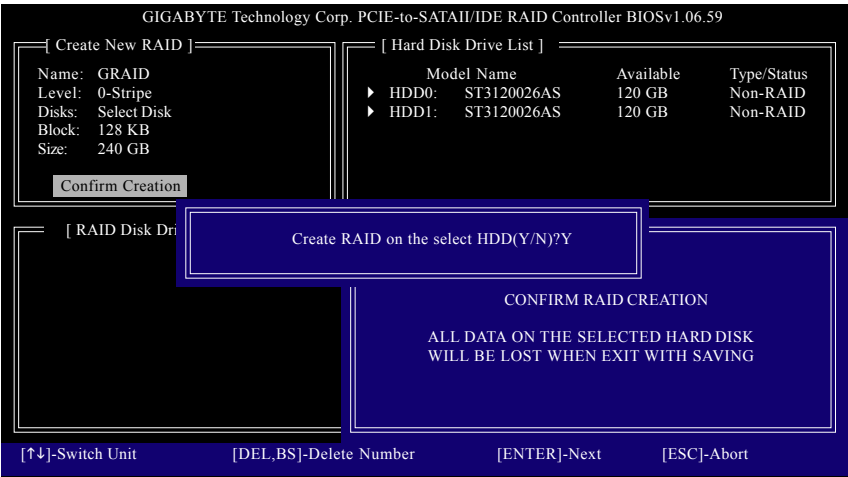

Figure 8
6. Confirm Creation: After all of the items above are configured, the selection bar automatically jumps to the **Confirm Creation** item. Press <Enter>. When prompted to confirm your selection (Figure 8), press <Y> to confirm or <N> to abort.